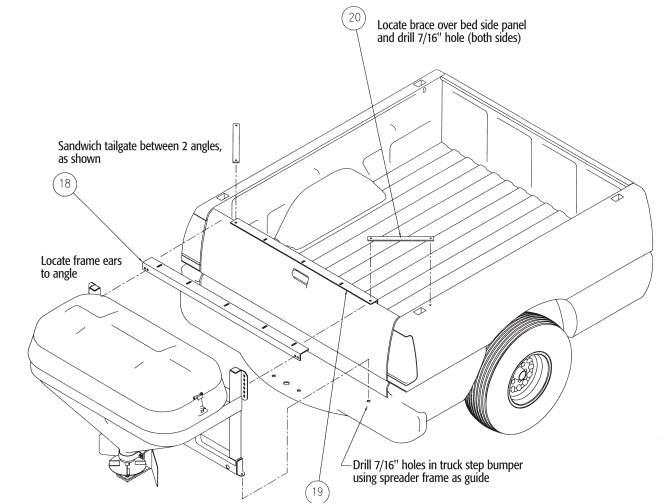

Fig. 1 Mounting
2. Assemble Angles (18, 19) and Braces (20) as shown in Fig.1 Use 3/8" carriage bolts, flat washers and nuts. Do not tighten fasteners at this moment.